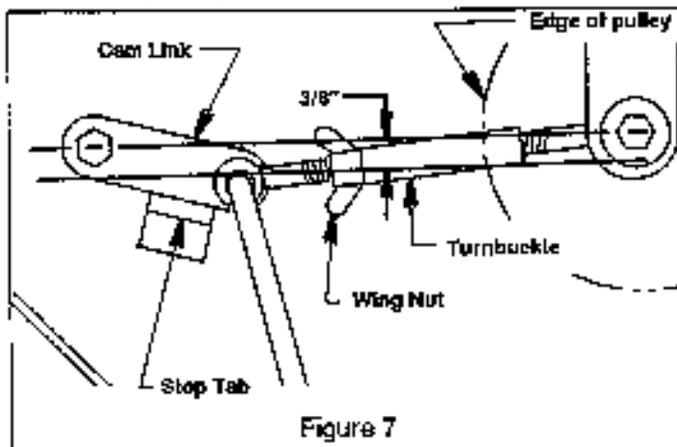
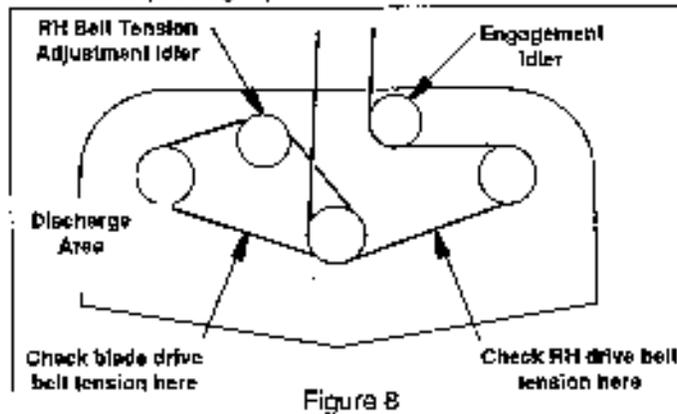

Figure 7
Figure 8
1. Engage blade clutch lever and check for proper over center clearance. There should be about 3/8" between rod and straight edge (See fig. 7). Bend the stop tab to adjust clearance.
2. Adjust belt tension so that the belt moves 1/2" with 10 lbs. of pressure. Check the pressure between the center and left spindle pulleys where applicable (See fig. 8). Second belt driving right spindle should be checked the same way. Adjustment is made by loosening the wing nut and tightening/loosening the turnbuckle (See fig. 7).